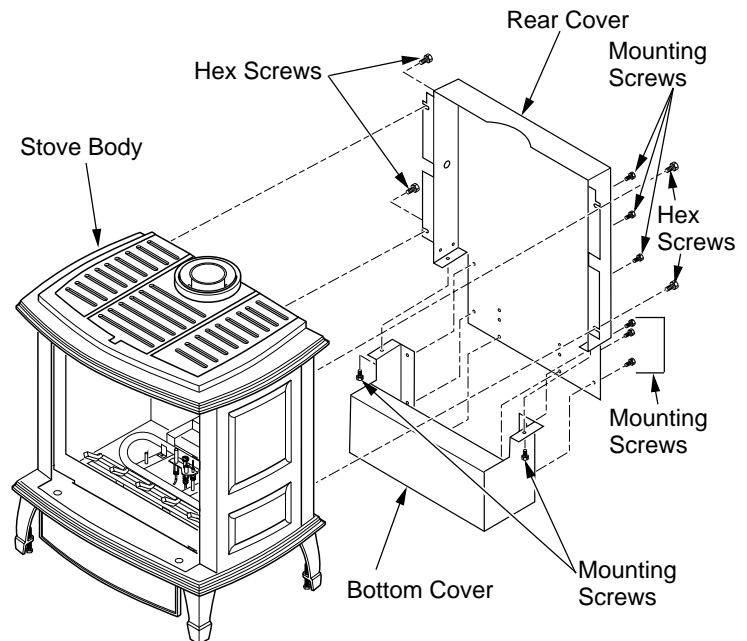

Figure 16 - Removing Rear Cover and Bottom Cover from Stove Body
1. Remove 4 hex screws securing rear cover to back of stove body (see Figure 16).
2. Separate bottom cover from rear cover by loosening the 8 mounting screws (see Figure 16).
- Reattach bottom cover to rear cover with 8 screws (see Figure 16, page 8). Make sure that you don't pinch any wires during reassembly. Route power cord through plastic bushing in bottom of rear cover.